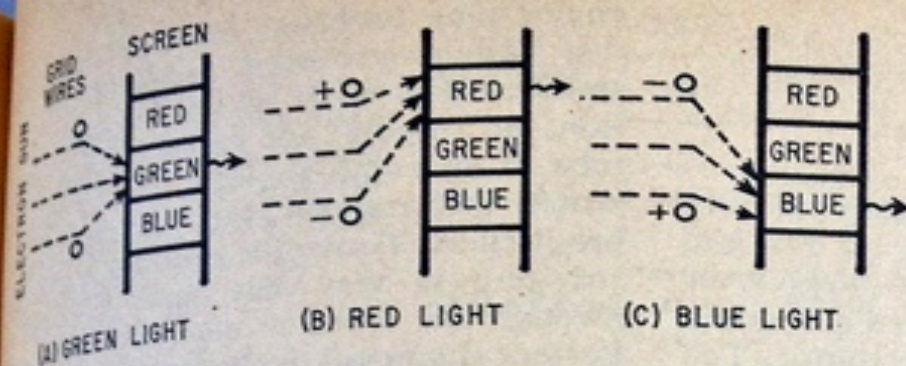

Fig. 5. Applying voltages to pairs of grid wires focuses the electron beam on one of the three phosphor screen stripes.
In Fig. 5 is a portion of the screen viewed from the top. Shown are three possible beam
positions for producing primary colors. Consider, first, Fig. 5 (A). Green is being produced, as just described; the beam passes through the grid wires and strikes the green phosphor. Now let's apply an electrical charge to the pair of grid wires. If the upper wire, shown in Fig. 5 (B) is impressed with a positive charge, it will attract the electron beam. (which is negative) in the direction shown. A negative charge placed on the lower wire aids this direction by repelling electrons. Thus, the overall effect is to deflect the beam toward the red phosphor. The final example, Fig. 5 (C), simply reverses the charge on the grid wires and the beam now strikes the blue phosphor stripe. It should be apparent that by placing the proper electrical charges on the grid, the beam can be angled to select any of the three primary colors.